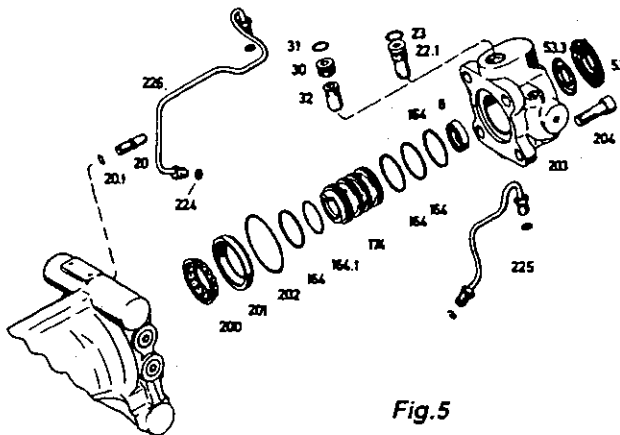

Fig.5
Remove protecting cap (53) and gasket (53.3) (Fig.5).